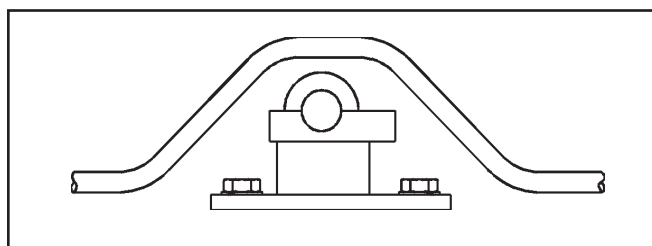

Fig. A24 — Correct
- **Get around obstructions without using excessive amount of 90° bends** — Pressure drop due to one 90° bend is greater than that due to two 45° bends. (See Figures A24 and A25.)